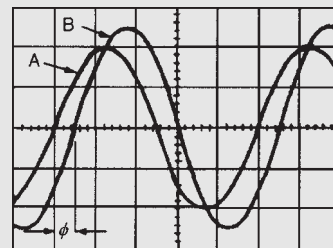

Figure 10.20
**Problem 10.** For the double-beam oscilloscope displays shown in Fig. 10.20 determine (a) their frequency, (b) their r.m.s. values, (c) their phase difference. The 'time/cm' switch is on 100  $\mu\text{s/cm}$  and the 'volts/cm' switch on 2 V/cm.